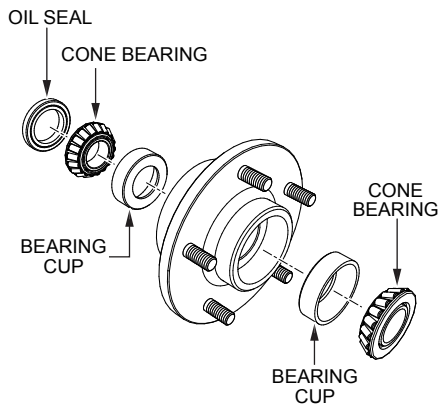

Figure 39. Wheel Hub and Bearings
1. After **every 3 months** of operation, remove the hub dust cap and inspect the wheel bearings (Figure 39). Once a year, or when required, disassemble the wheel hubs remove the old grease and repack the bearings forcing grease between rollers, cone and cage with a good grade of high speed wheel bearing grease (never use grease heavier than 265 A.S.T.M. penetration (“No. 2.”)).
2. Fill the wheel hub (Figure 39) with grease to the inside diameter of the outer races and also fill the hub grease cap. Reassemble the hub and mount the wheel. Then tighten the adjusting nut, at the same time turn the wheel in both directions, until there is a slight bind to be sure all the bearing surfaces are in contact.